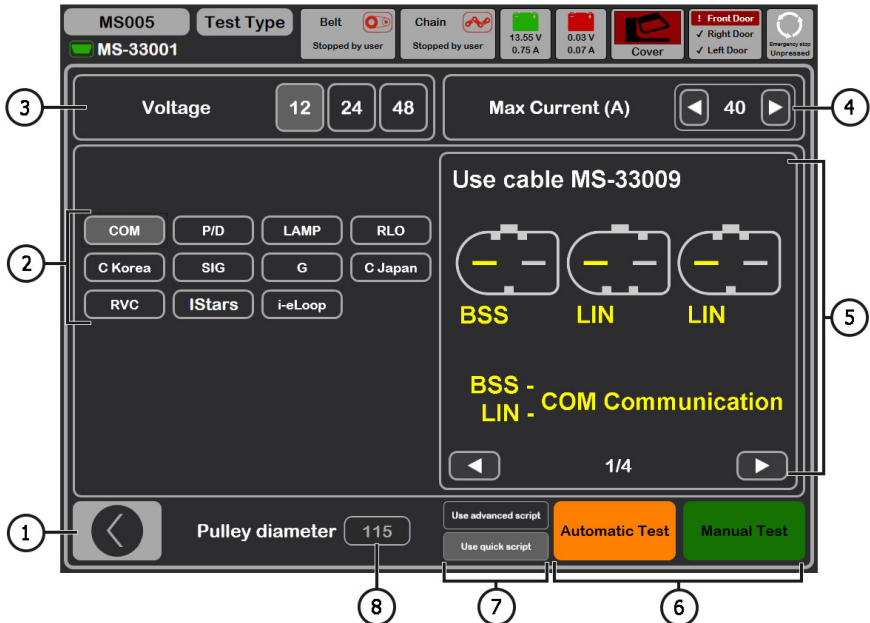

Figure 22. Menu for Selecting the Diagnosed Alternator Type
When the alternator diagnostic mode is activated, a menu for selecting the type of diagnosed alternator opens (see Figure 22), which includes:
7 - Control of the load on the alternator, the value is set in percentage of the value set in menu item 4 of Figure 22.
"Pulley RPM" – Rotation frequency on the alternator pulley. If the pulley size is not specified in menu item 8 of Figure 22, the drive revolution value is displayed.